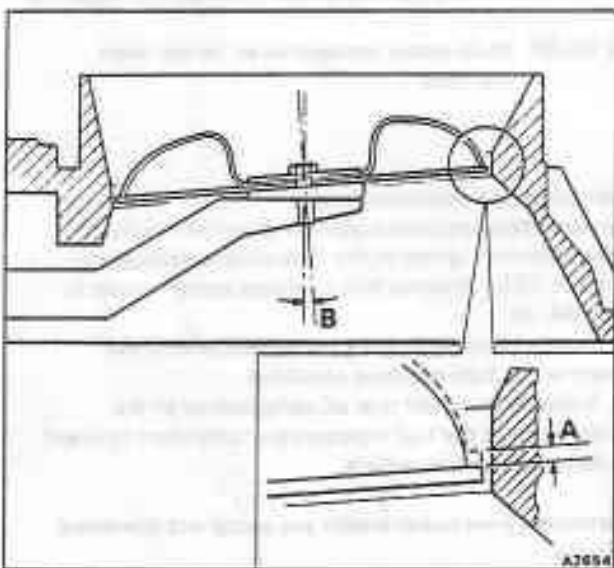

Fig. B4-39 Air flow sensor plate position
7. The air sensor plate should be positioned as shown in figure B4-39, with the plate not protruding above or below the parallel section of the air funnel.